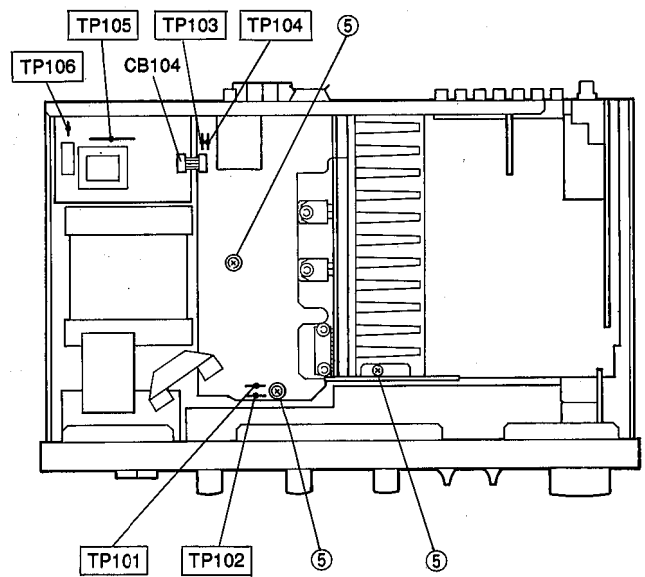

Fig. 3
- c. Remove 3 screws ( ⑤ ) fixing the Main Unit in Fig. 3.
- d. Detach 1 connector terminal (CB104) in Fig. 3.
- e. Operating checks can be taken by shorting between following test points in Fig. 3.